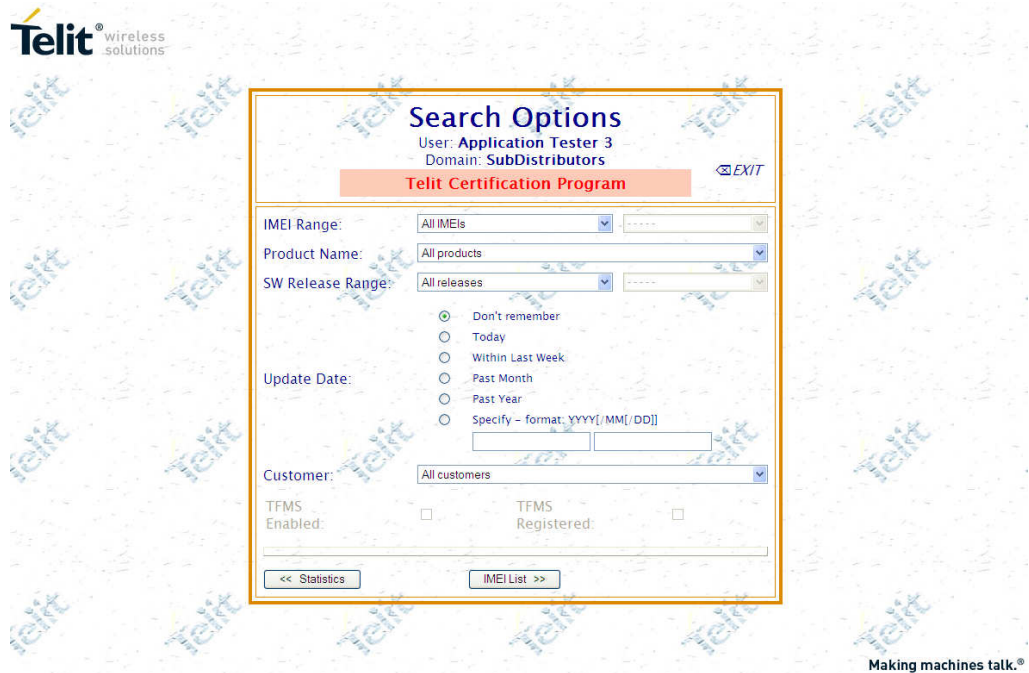

Fig.9 Search dialog box in case of not certified customers
- a) “Telit Certification Program”: special FOTA Updating session to get the PFM Certification (see fig. 9)